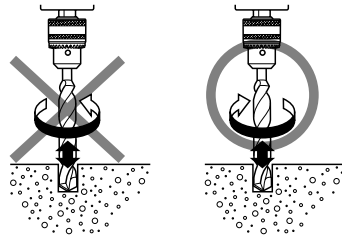

Fig. 1
3. Always use the impact drill with clockwise rotation, when using it as an impact drill. (Fig. 1)